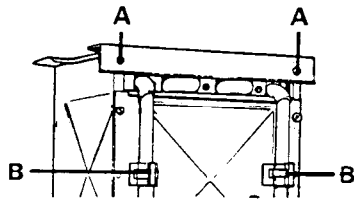

Fig.21
- a) Remove the two screw (A) holding the deflector plate in position (see fig. 21).
- c) Disconnect joints where heating body joins heating body legs (B) (see 6.8)